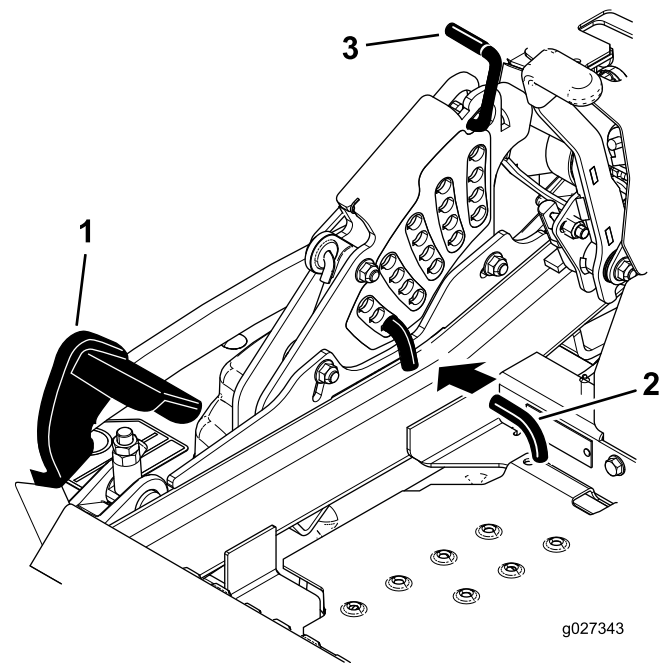

Figure 97
5. Push the deck-lift pedal all the way forward and the deck latches at the 14 cm (5-1/2 inches) transport position (Figure 97).